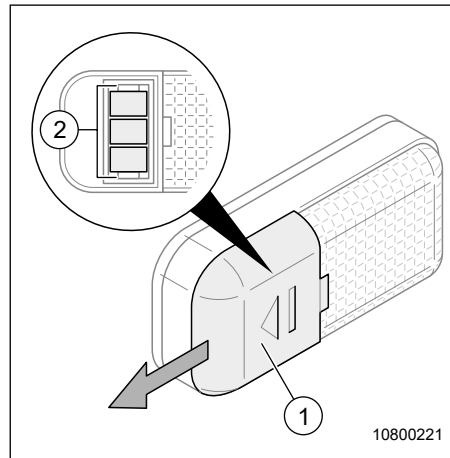

Fig. 74 Battery-operated lamp
1. Push battery compartment cover (Fig. 74, Pos. 1) to the side.
2. Replace the batteries (Fig. 74, Pos. 2) .